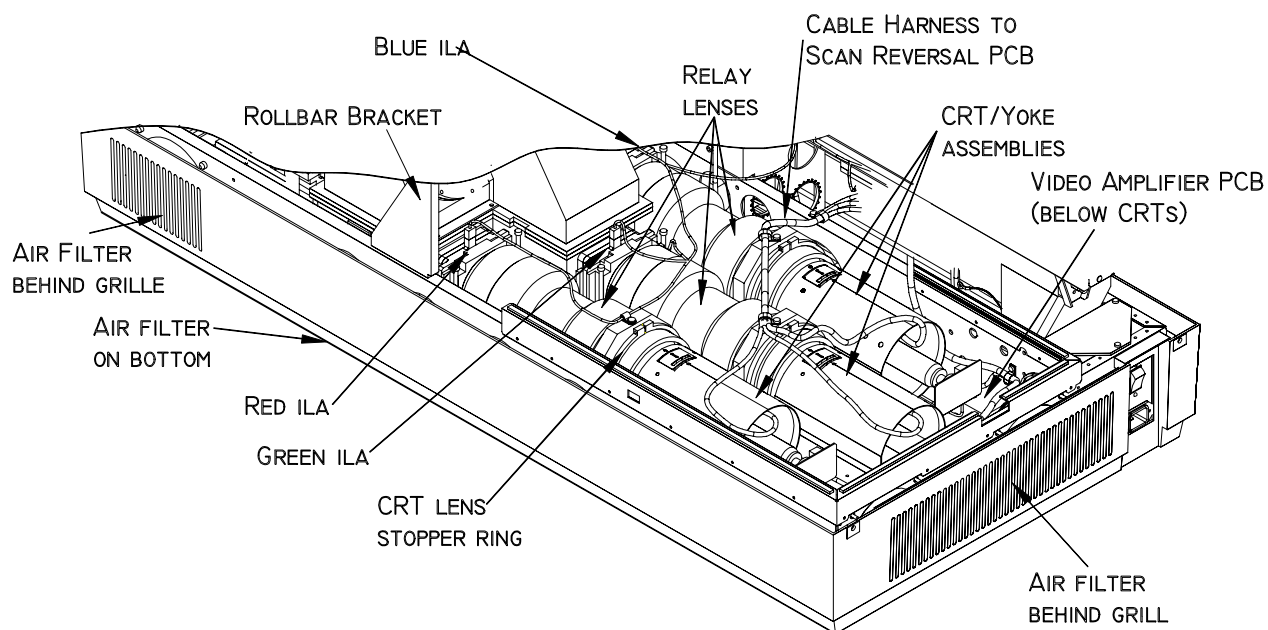

Figure 4-14. View of CRTs, Relay lenses and ILA[®] Assemblies.
Three CRT/Yoke Assemblies are located in the CRT Assembly area below the card cage. To remove a CRT/Yoke Assembly (refer to *Figure 4-14*):
3. Disconnect the connector on the top of the appropriate **ILA**® assembly. (Figure 4-14).
To remove a Relay Lens (refer to Figure 4-14):
4. Loosen the CRT Lens Stopper Ring (the thin collar just in front of the CRT Holder knurled ring-Figure 4-14) and slide it off the back of the Relay Lens.